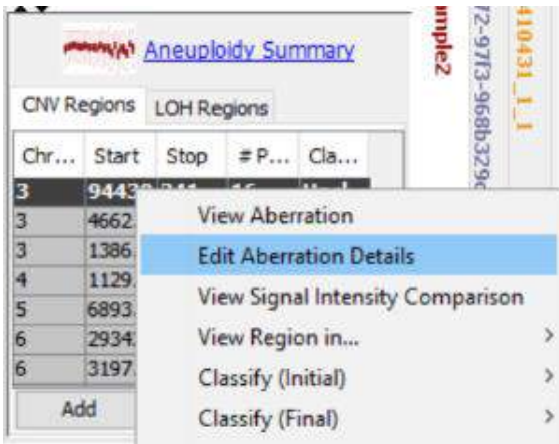

Figure 37: Edit Aberration Details window access via the CNV Regions table.
- a. Right-click on the aberration in the **CNV Regions** table and choose **Edit Aberration Details** (Figure 37).